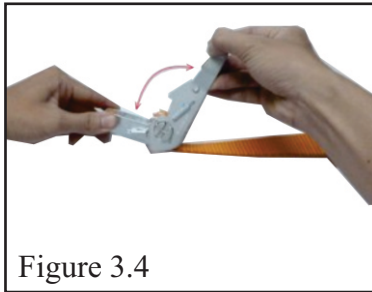
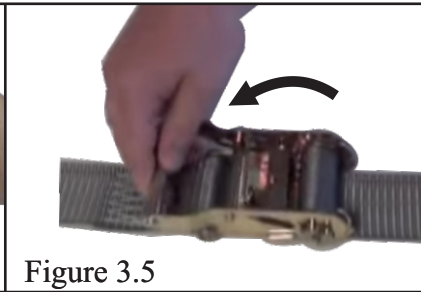

Figure 3.4
Figure 3.5
- Flip the ratchet up and down to tighten the strap (Figure 3.4). Once tightened, fold the ratchet down to lock and keep it during the operation. (Figure 3.5).